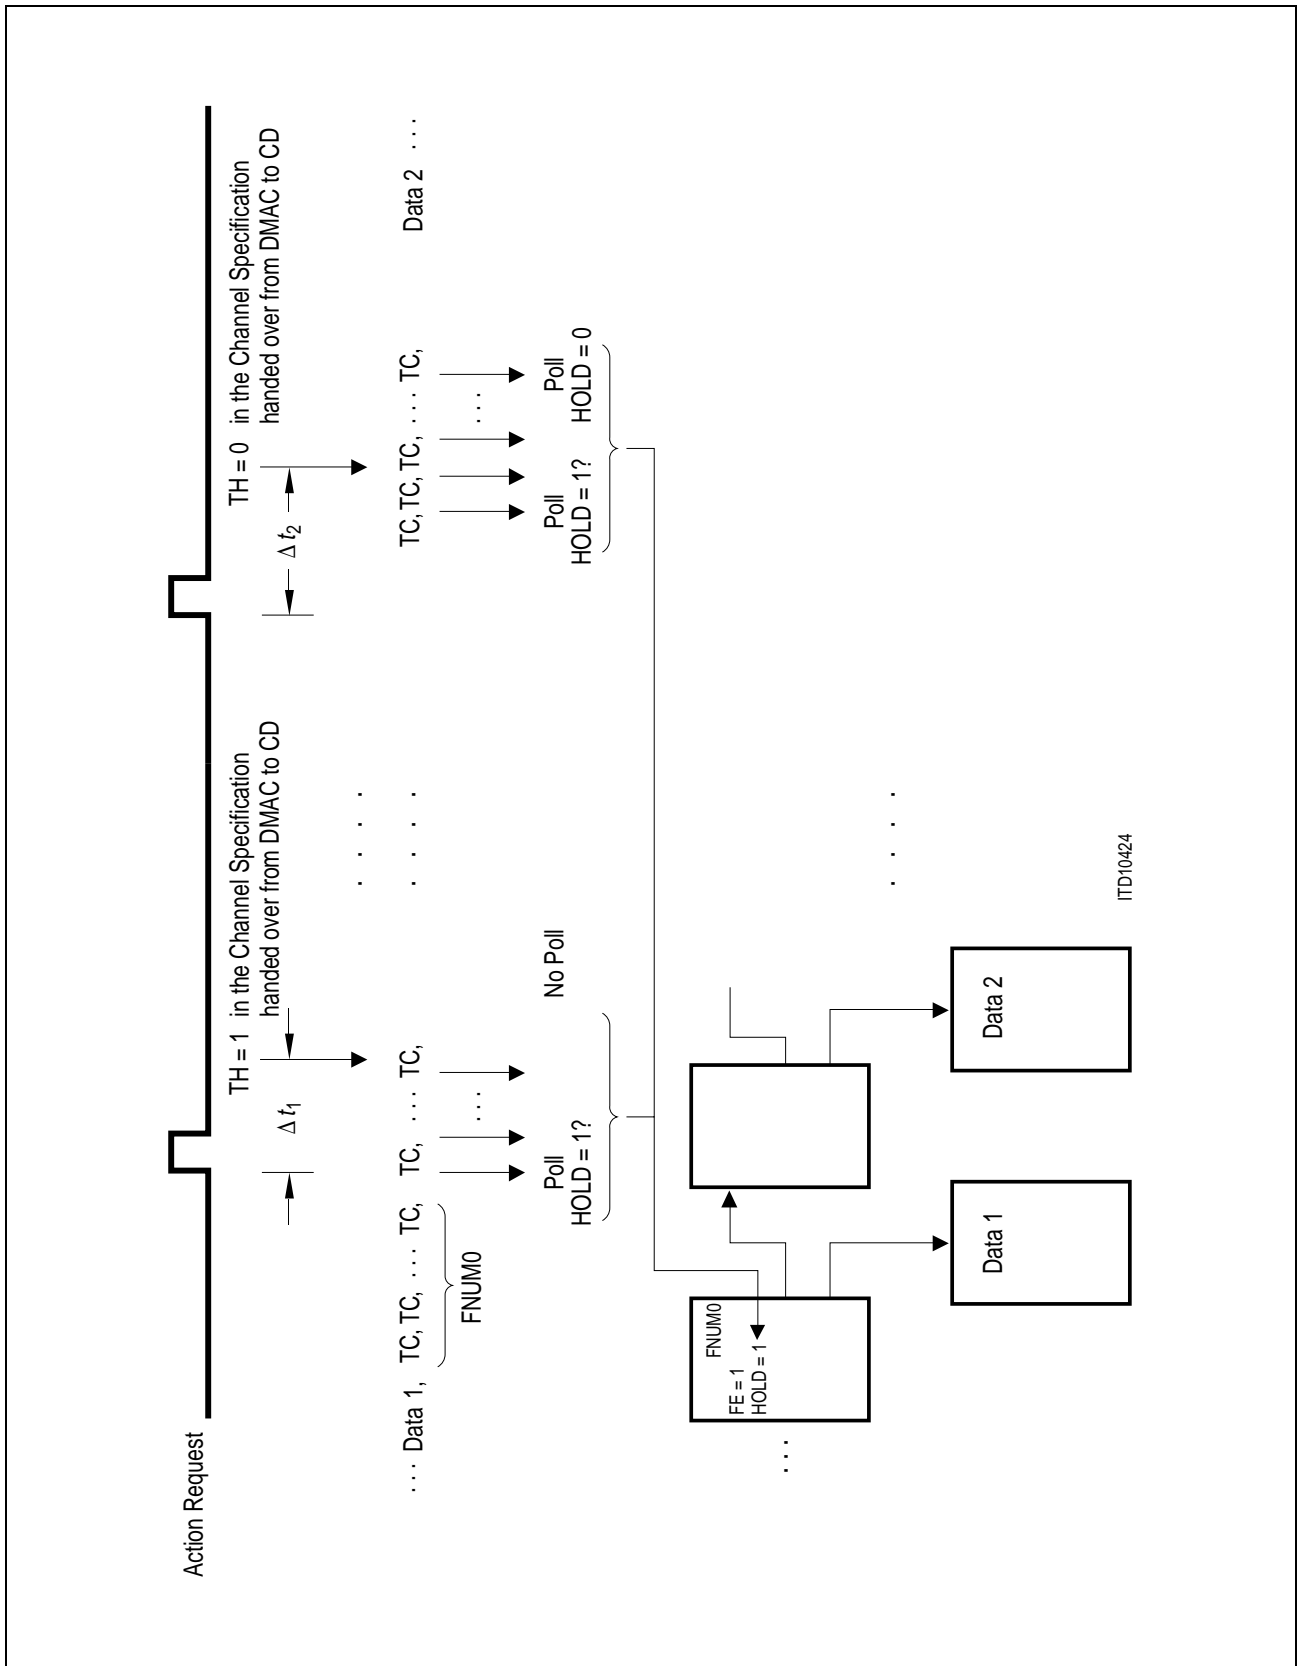

Figure 29
- FA = 0: FNUM from the transmit descriptor is taken directly to determine the number of interframe time-fill characters as shown in **Figure 29**.